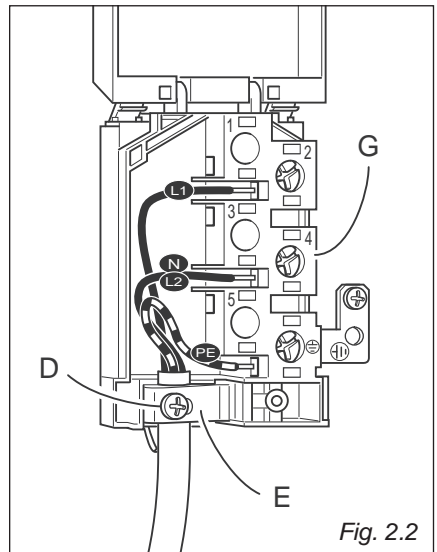

Fig. 2.2
- Unscrew the screw "D" and open completely the cable clamp "E" (fig. 2.2).